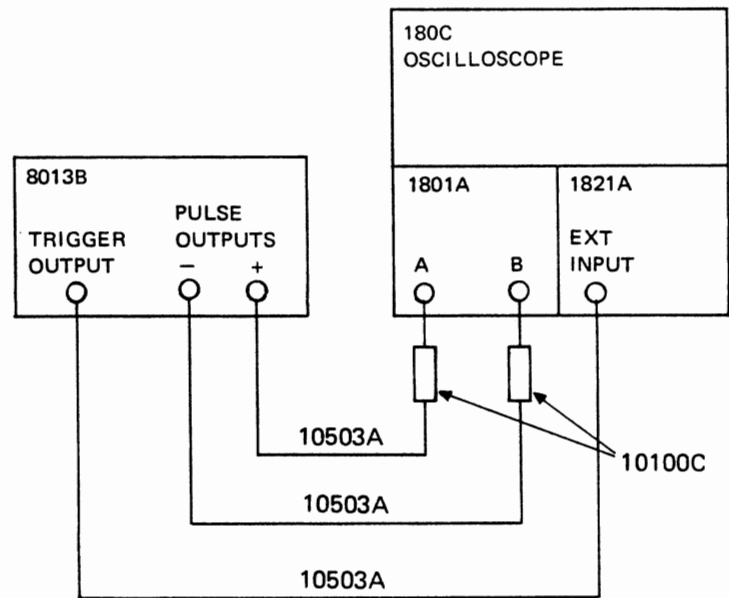

Figure 3-4. Initial control settings and test equipment
3-14 In this mode the 8013B requires no external signal to produce an output signal. Rate, delay, width, amplitudes etc. are all adjustable from the front panel controls. The initial control settings (also shown in Figure 3-1) are given to assist someone unfamiliar with the operation of the 8013B. The positive and negative pulse outputs (17) and (18) and the TRIGGER OUTPUT (21) should be connected to an oscilloscope using a 50 ohm system (as shown in Figure 3-4). The oscilloscope (an HP 180C mainframe with 1801A and 1821A plug-ins) should be set with the sweep time at $20\mu\text{s}/\text{div}$ and the sensitivity at $2\text{V}/\text{div}$.